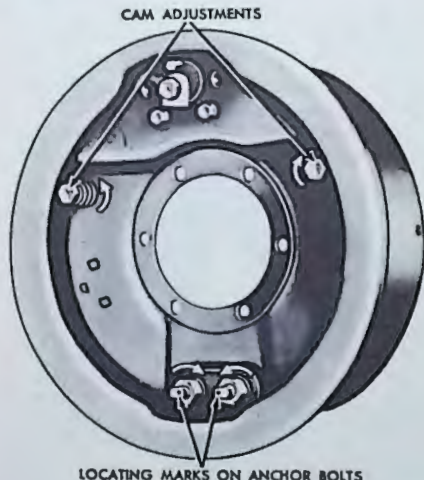

Figure 1—Brake Plate (Ford Hydraulic)
(1) **FORD HYDRAULIC BRAKE** (Passenger Cars and Trucks). Turn the adjusting cam for the forward shoe at one wheel in the direction shown by the arrow (fig. 1) until the shoe is tight against the drum. Then turn it back until the wheel turns freely by hand.